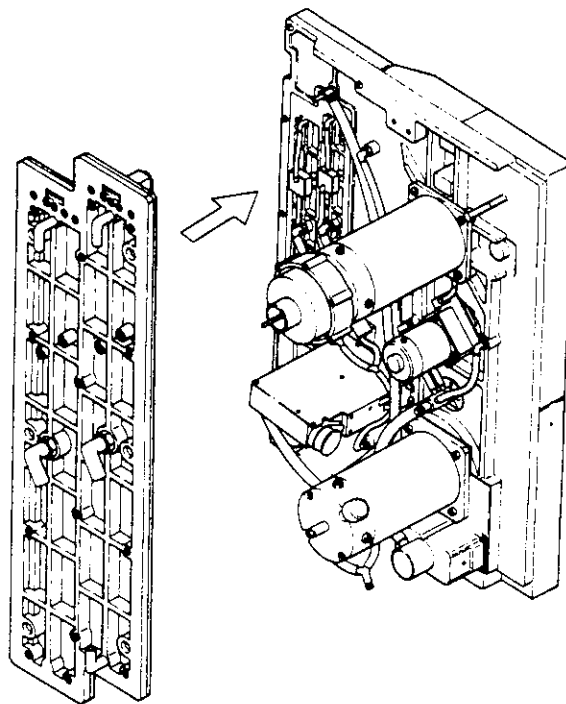

Figure L.48 Capacitive sensor
- (1) Disconnect connectors CNJ55R and CNJ55L, and terminals SWP1 and SWP2 from the capacitive sensor, shown in Figure L.48.